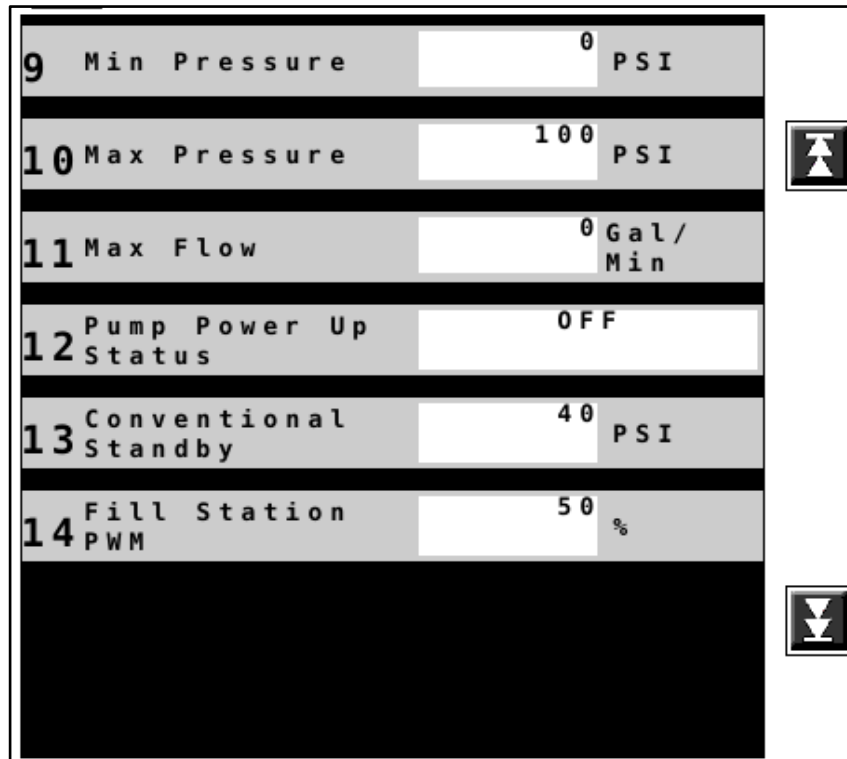

Figure 12 — Pump Setup Page 2
21. Figure 12: Use the **Scroll Down** icon  to view the second page and verify the values there as well.